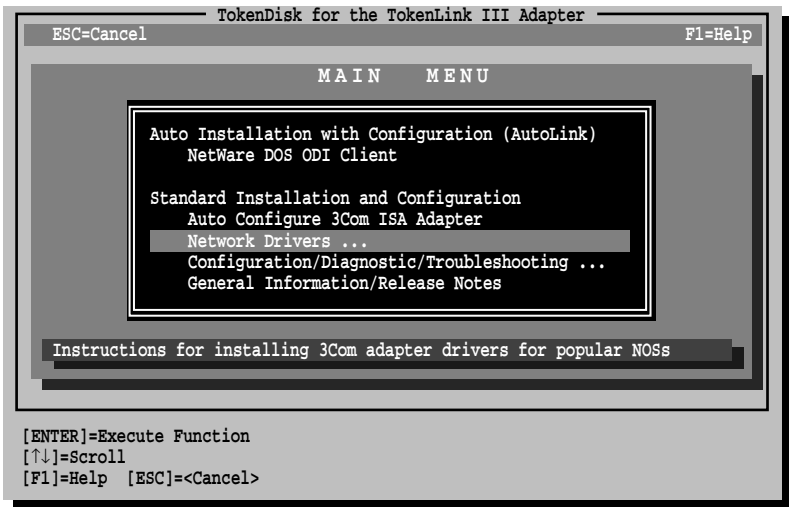

Figure 5-2 Main Menu with Network Drivers Option Selected
- 1** From the main menu shown in Figure 5-2, select **Network Drivers** and press [Enter].